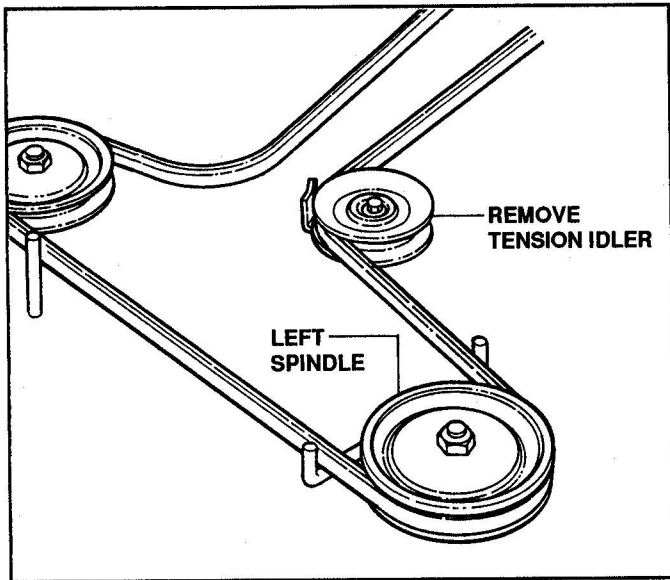

FIGURE 4.22
2. Remove tension idler on left side of deck. See Figure 4.22.